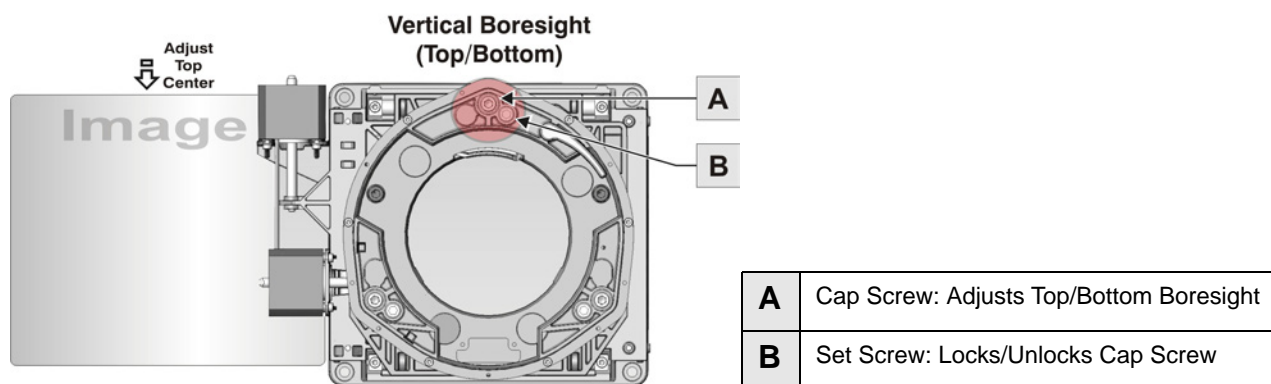

Figure 4-2 Top/Bottom Image Adjustment
4. Loosen the set screw with a 5mm hex key. (**Figure 4-2/B**).
5. Turn the vertical adjust cap screw 1/8 of a turn counter-clockwise with the 5mm hex key. (**Figure 4-2/A**).